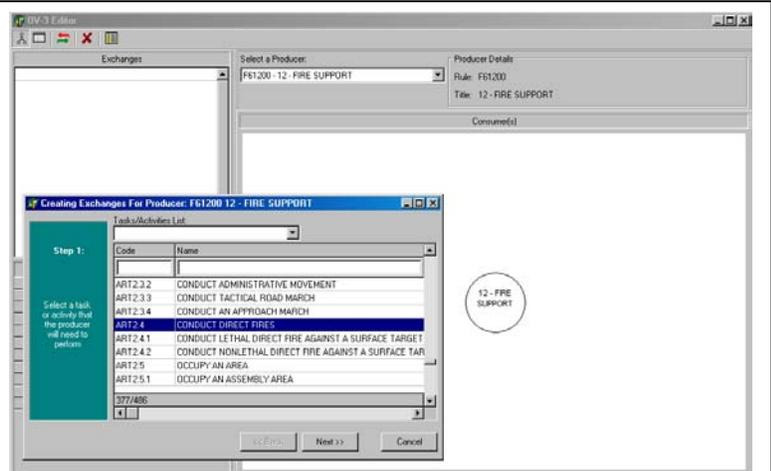

Figure 4: Exchange Wizard Step 1
**STEP 1:**(figure 4) The user selects the producing node and launches the Exchange Wizard by double clicking on the node circle in the work space. The user will select the activity list he wishes to use (such as AUTL version XX, or UJTL version XX) then selects a task or activity from that list that the producer will need to perform. The user will work one activity at a time for each producer. In the example in Figure 4, the user has selected ART 2.4, Conduct Direct Fires